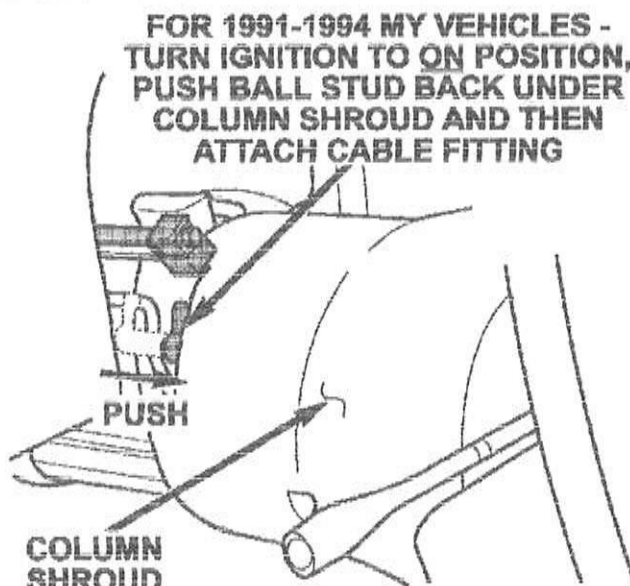

Figure 27
28. Connect the cable to the ball stud on the steering column as follows (Figure 27):